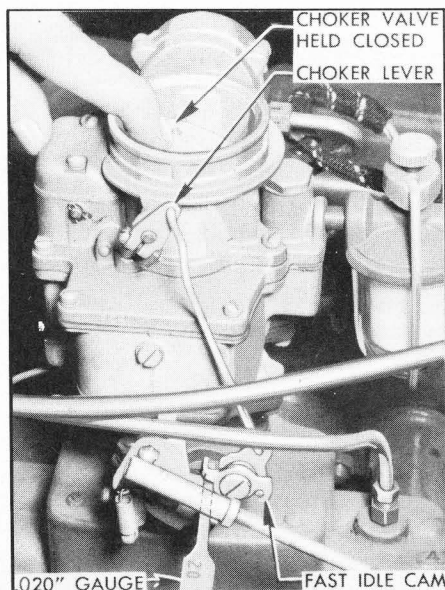

Fig. 3-38—Clearance Between Fast Idle Cam and Boss
2. Hold choker valve in closed position and see that the cam trip lever is in contact with the fast idle cam, then check the clearance between the arm of fast idle cam and the boss on throttle body, using feeler gauge .020" thick and not over $\frac{3}{16}$ " wide. See figure 3-38.